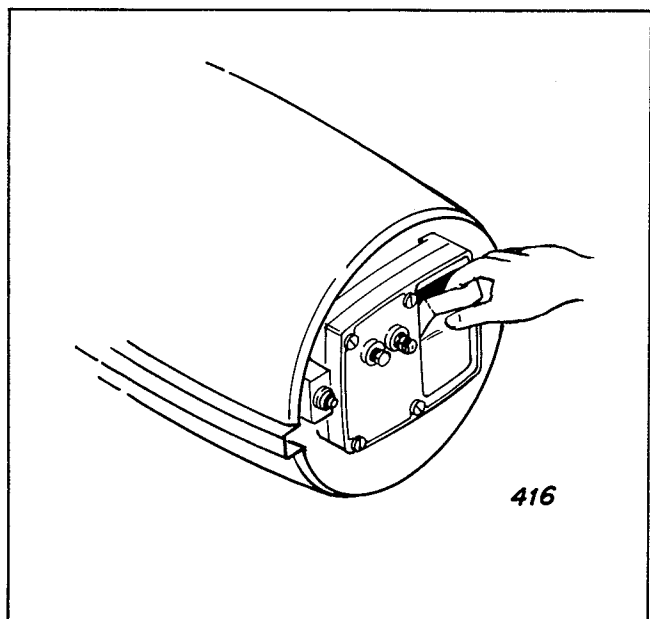

Figure 3. Removing Intake Air Filter
1. Check and clean the intake air filter often. The filter needs cleaning if you can see a film of dust on it. It will need cleaning more often if the heater is operated in dusty air. See Figure 3.